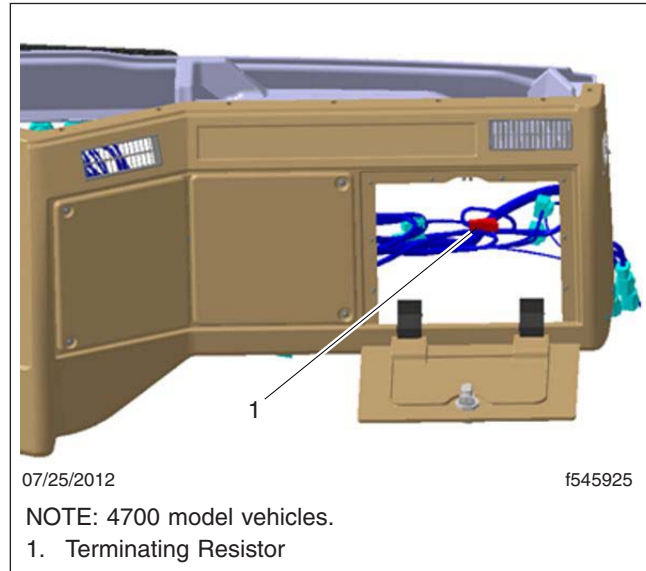

Fig. 5, Terminating Resistor Located Behind the Glove Box
- On 4700 models, the terminating resistor is located behind the glove box. See Fig. 5.